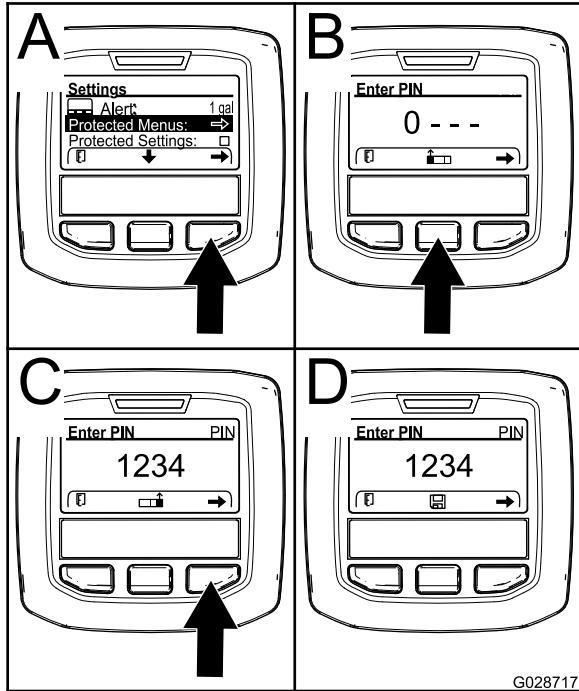

Figure 62
4. Press the right select button to select Protected Menus (A of Figure 62).
- Press the center selection button (B of Figure 62) to increase the numerical value (0 to 9)
- Press the right selection button (C of Figure 62) to move the cursor to the next numerical position to the right.
Note: The Save icon will appear above the center selection button (D of Figure 62).